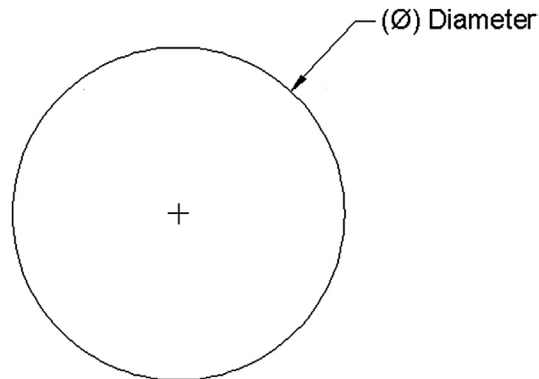

FIGURE 6.4
This is a dimension that measures the diameter of a circle or an arc (Figure 6.4).
Step 1. Create a small to medium-size circle, as seen in Figure 6.4. Then, begin the diameter dimension command via any of the preceding methods.